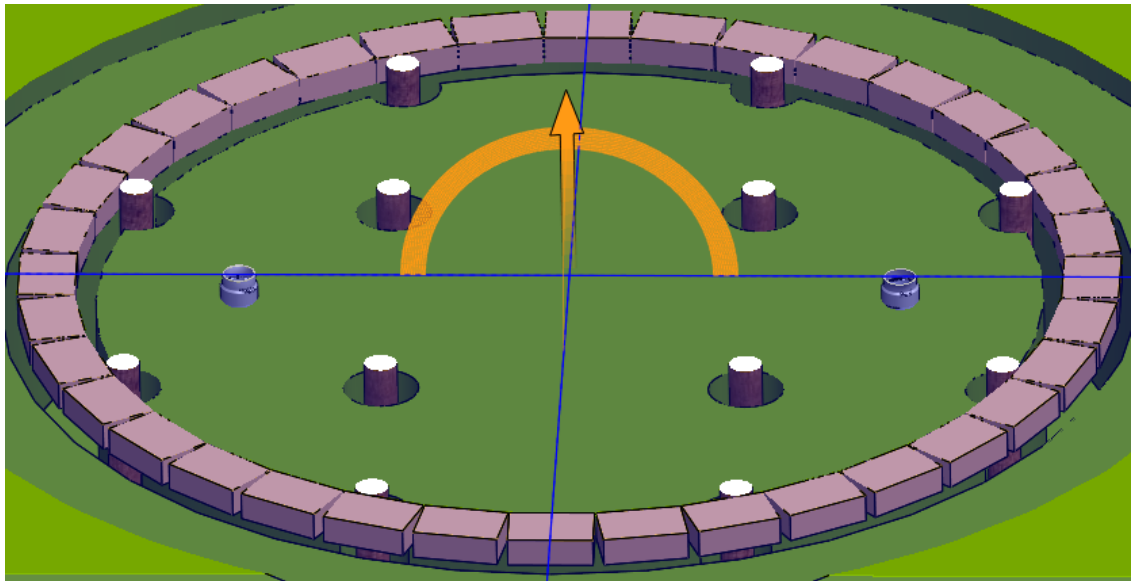

Figure 4: First Course of Brick
14. **First course of bricks:** Be sure that all bricks are clean and dry (surface dirt will keep the mortar from bonding). Stage the bricks close to the footing so they are easily within reach. Once again, temporarily layout a 36-brick base circle such that the centerline of the doorway bisects the middle doorway brick, shown in Figure 4 below. Ensure the bricks are touching the outer timber poles and evenly spaced. Mix a batch of mortar per the mortar supplier's recommended ratio. Placing your mortar mix on a wet board makes it easy to move around and work with.